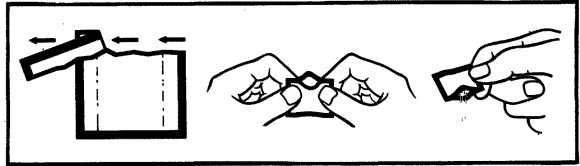

Figure 2
2. Tear open one FerroVer Iron Reagent Powder Pillow as shown in Figure 2. Add the contents of the pillow to the tube and shake to mix. An orange color will develop if iron is present.